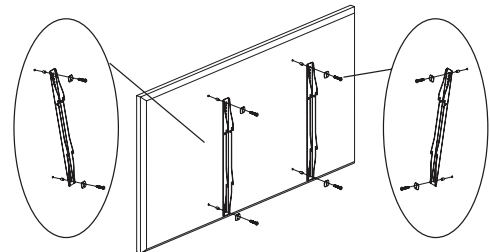

Figure 4
- Ensure the arms are installed flat side to TV and are square to each other after all screws have been installed (Figure 4).